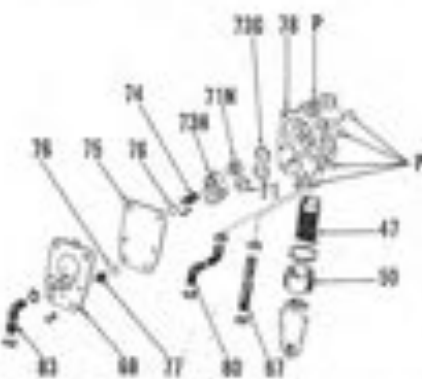

Fig. 350—Exploded view of fuel pump and strainer used on some late ED motors.
All defective or questionable parts should be renewed. Diaphragm (7)—Fig. 350 should be renewed if air leaks or cracks are found, or if its condition is in any way questionable.